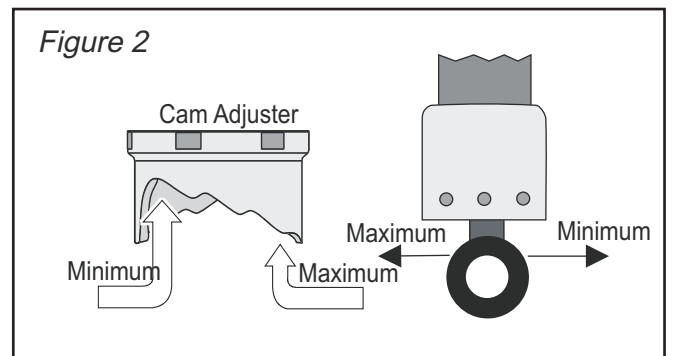
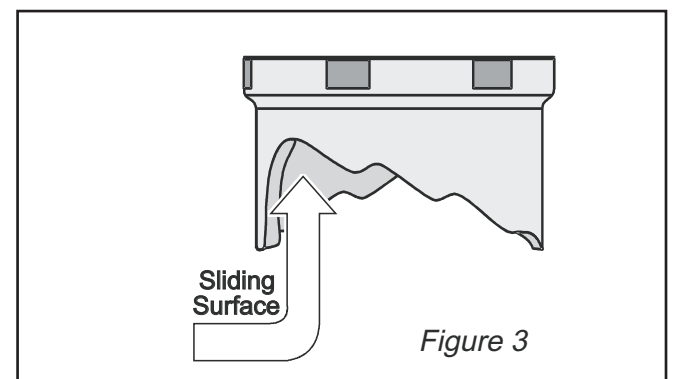

Figure 2
Figure 3
- Test ride: If excessive bottoming occurs, adjust spring pre-load cam to a higher setting (see figure 2). For easier spring preload adjustments, put a small amount of cam adjuster lube (supplied) on the sliding surface prior to rotating the cam (see figure 3).